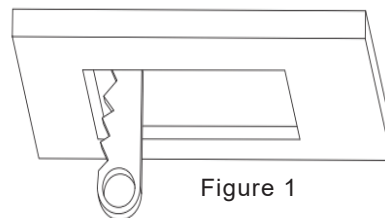

Figure 1
2. After marking the center point of where the fixture will be located, using the provided template cut the required hole shown in figure 1.